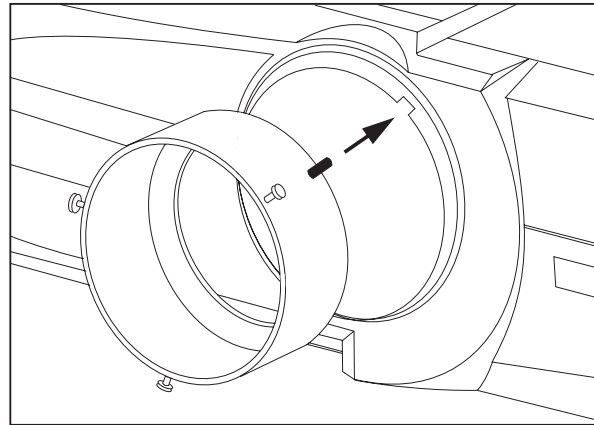

Figure 4-11. Align adapter collar pin to slot in projector
- a) Insert the new zoom adapter collar (available separately) into the empty lens area of the projector, aligning the collar pin to the slot in the projector (Figure 4-11). Fully *loosen* all 3 collar thumbscrews.